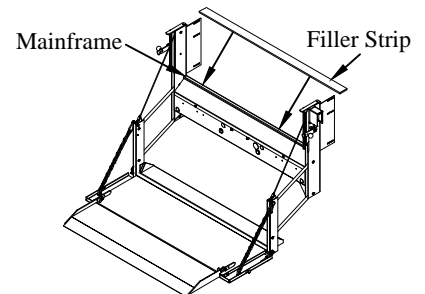

Figure 12: Filler strip location (Original Series).
1. **Weld** the supplied filler strip (12ga.x1-1/4"x58-1/2") to the top corner of the liftgate mainframe (Figure 12).